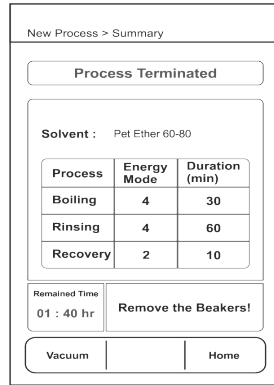

Fig. No. 25.2
- **Process Termination** (Ref. Fig. No. 25.2) : If the process is terminated,